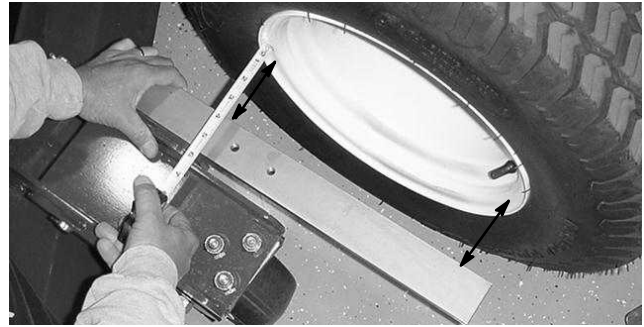

Figure 9
- B. Place a square or straight edge against the deck weldment that contains the castor fork assembly (Fig. 9). Do not use the castor fork assembly itself.
- C. Measure from the inset bead of the rim (not the outer edge of the rim) to the straight edge at two locations as indicated in Figure 9. Rim and paint irregularities make the rim outer edge an unreliable point of measure. These two measurements should be the same within a tolerance of 1/8" (3 mm).